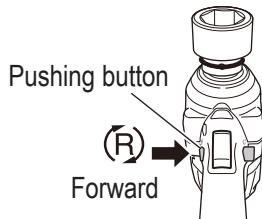

Fig. 20
(2) Auto stop mode selector switch (Fig. 20)